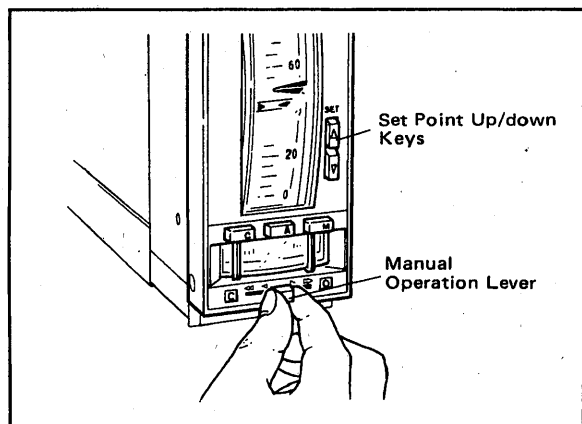

Figure 5-12. Manual Output Operation.
- b. Adjust the manipulated output signal by moving the manual operation lever to the left or right. (See Figure 5-12.)
- c. Set a desired set point by using the Set-Point up/down keys. (See Figure 5-12.)